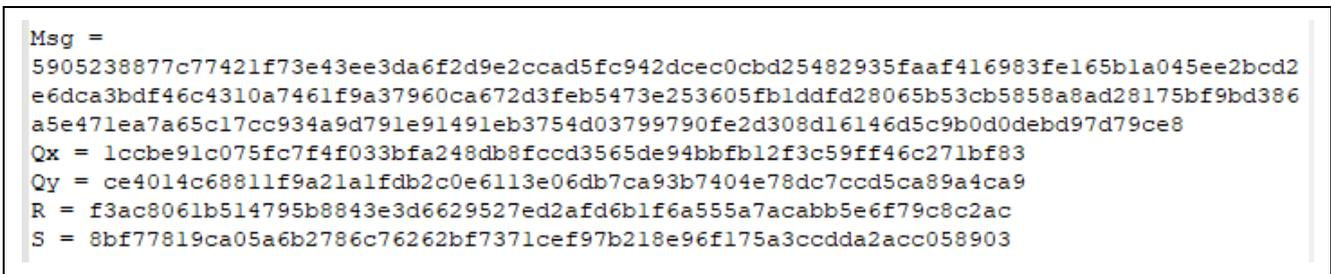

Figure 68. NIST ECC secp256r1 Test Vector
In this section, we will use the ECC key pair in Figure 68 as example of preparing an ECC public key for secure key injection.
- 1ccb91c075fc7f4f033bfa248db8fccd3565de94bbfb12f3c59ff46c271bf83 ce4014c68811f9a21a1fdb2c0e6113e06db7ca93b7404e78dc7ccd5ca89a4ca9 is the NIST ECC public key from Figure 68 .